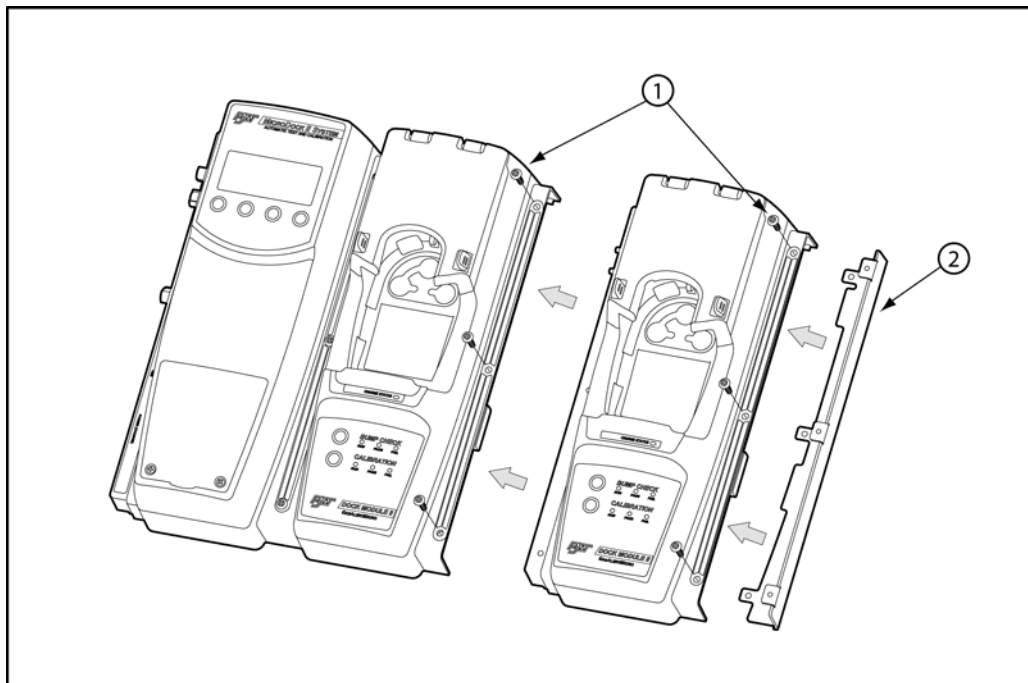

Figure 14. Adding Another Docking Module (Front View)
- Figure 14.,
19. After all of the modules have been added, attach the end plate. Refer to Figure 14.